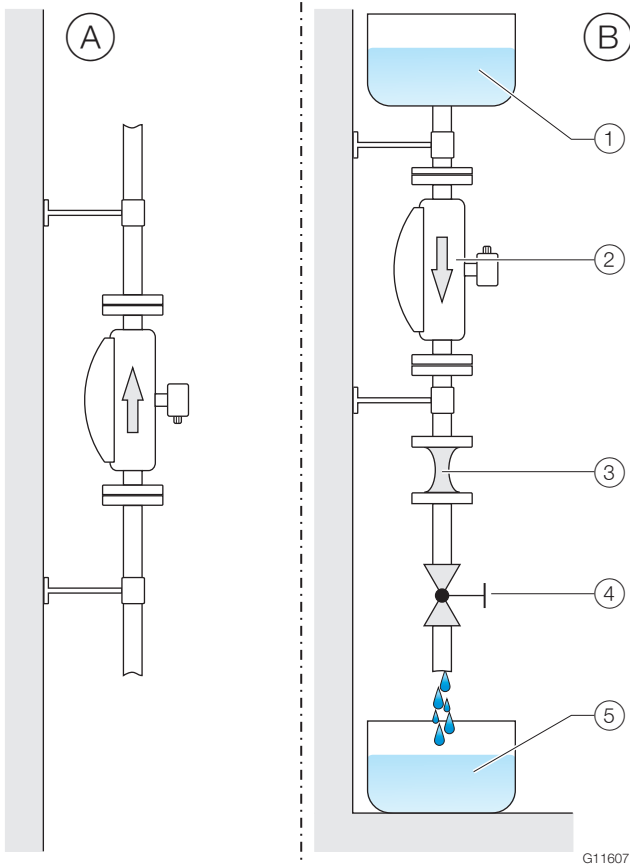

Fig. 3: Vertical installation
- The required self-draining functionality of the sensor can only be guaranteed when the vertical mounting position is used (see also Fig. 3 on page 8).